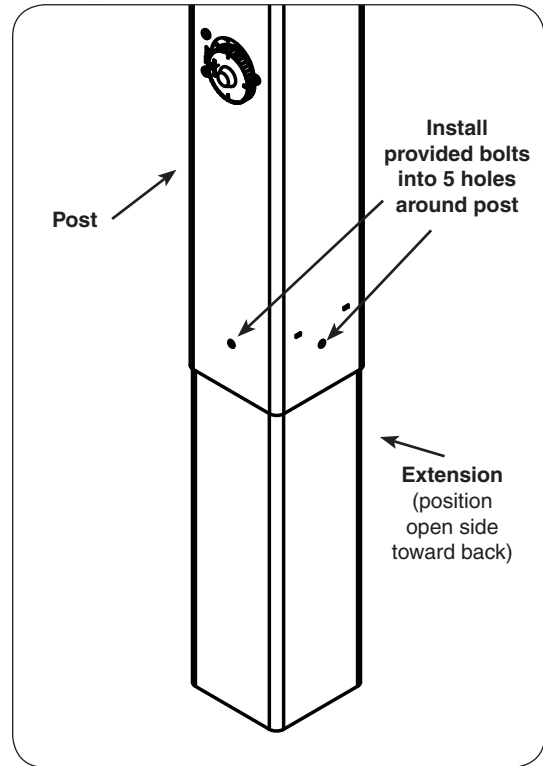

Fig. 14-1 Install extension to post
1. Attach the extension to the bottom of the grill post so that the open portion is toward the back of the grill and the five holes in the extension line up with the five (5) weld-nuts in the post (see Fig. 14-1).